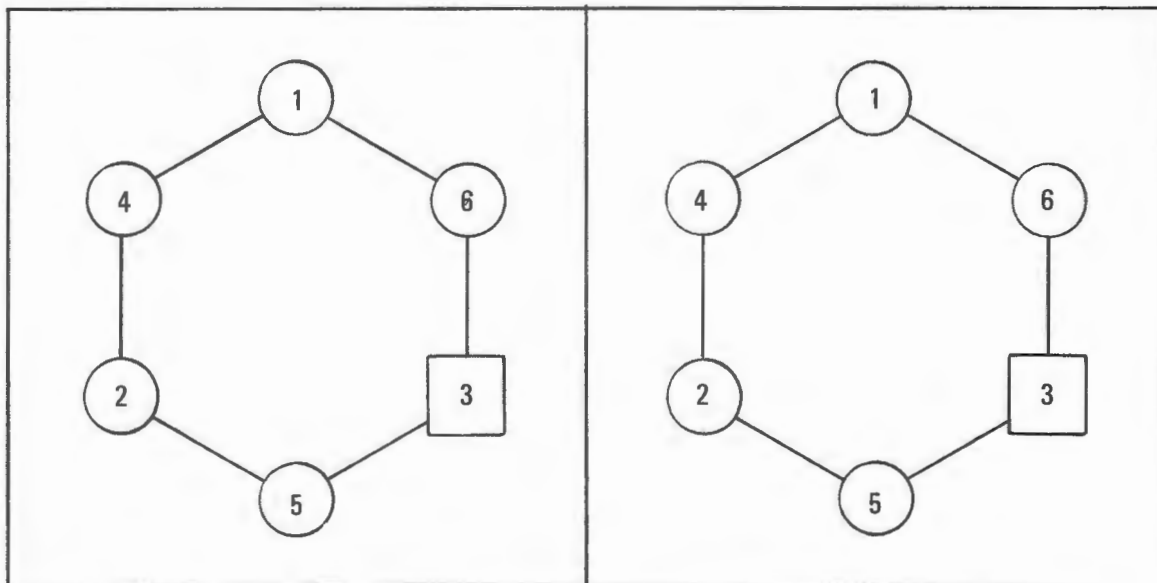

FIGURE 5-7 CYLINDER HEAD BOLT TORQUING SEQUENCE
- c. Using twelve washers, lockwashers, and bolts provided. Torque the heads down according to sequence shown in Figure 5-7. The internally threaded standoff bolts are to be positioned at location 3 on each cylinder head.